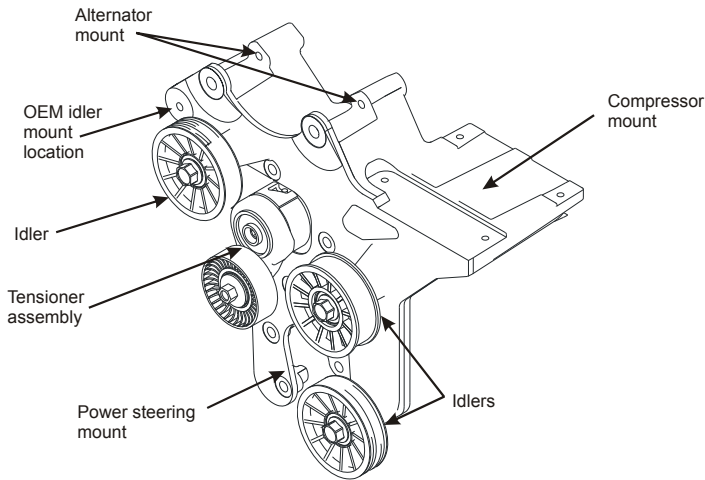

Figure 5.3
- Remove the idlers and the complete tensioner assembly from the main bracket (Figure 5.3).